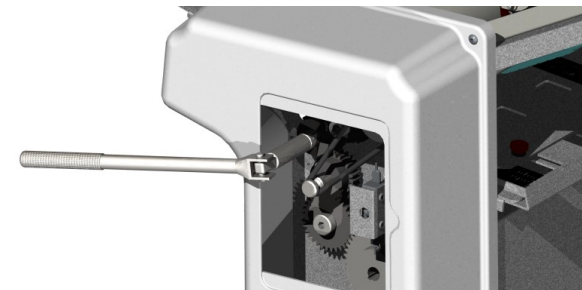

Figure 13: Access Panel & Breaker Bar
5. Place the breaker bar socket over the hex end of the #3 roller [Figure 13].
5. Insert the 7/16" socket at the end of the breaker bar over the hex shaped end on the #3 roller [Figure 13]. This bar can now be used to rotate the rollers.